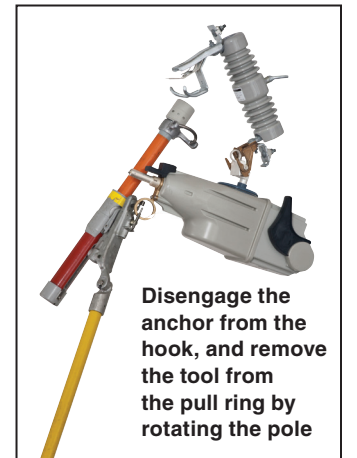

Figure 3. Disengaging the Loadbuster Tool.
STEP 6. To detach the Loadbuster tool after circuit interruption, raise it slightly and disengage the anchor from the attachment hook. Then, remove the tool from the pull ring by rotating the pole. See Figure 3.